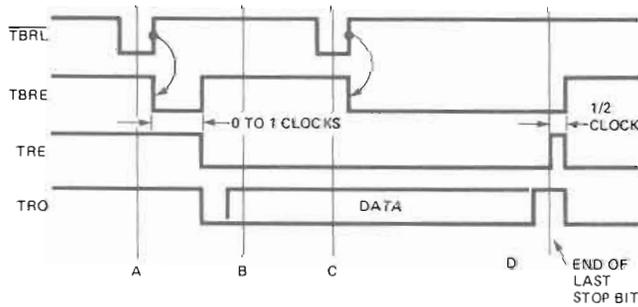

FIGURE 7. Transmitter Timing (Not to Scale)
Transmitter timing is shown in Figure 7. (A) Data is loaded into the transmitter buffer register from the inputs TBR1 through TBR8 by a logic low on the $\overline{\text{TBR}}\text{Load}$ input. Valid data must be present at least t_{DS} prior to and t_{DH} following the rising edge of $\overline{\text{TBR}}\text{L}$. If words less than 8 bits are used, only the least significant bits are used. The character is right justified into the least significant bit, TBR1. (B) The rising edge of $\overline{\text{TBR}}\text{L}$ clears TBREmpty . 0 to 1 clock cycles later, data is transferred to the transmitter register, TREmpty is cleared and transmission starts. TBREmpty is reset to a logic high. Output data is clocked by TRCLOCK , which is 16 times the data rate. (C) A second pulse on $\overline{\text{TBR}}\text{Load}$ loads data into the transmitter buffer register. Data transfer to the transmitter register is delayed until transmission of the current character is complete. (D) Data is automatically transferred to the transmitter register and transmission of that character begins.